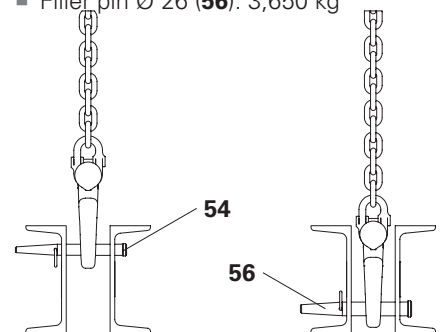

Fig. B1.01
- Attach the frames to filler pins in the top chord or to the crane with lifting straps (Fig. B1.01).